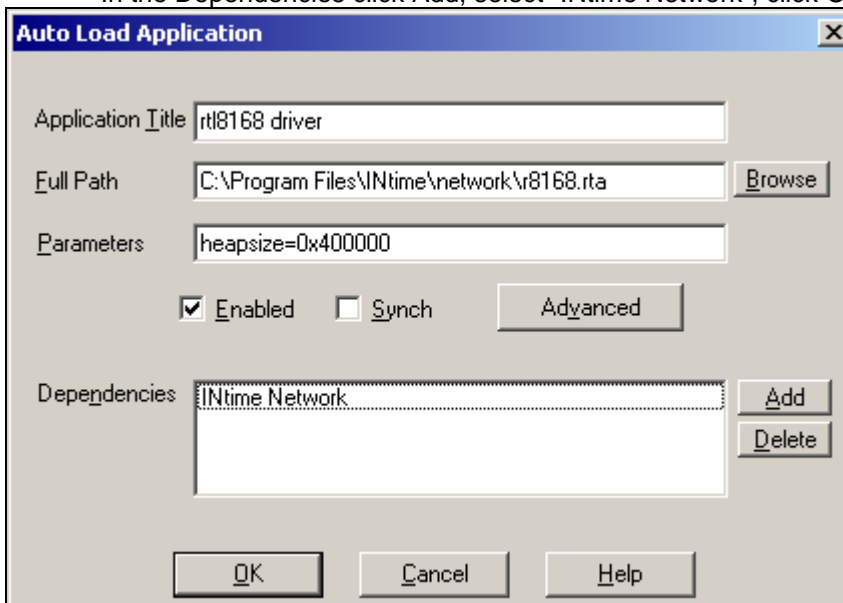

**Figure 3.6:** NIC Configuration
- Your settings should look like in the Figure 3.6